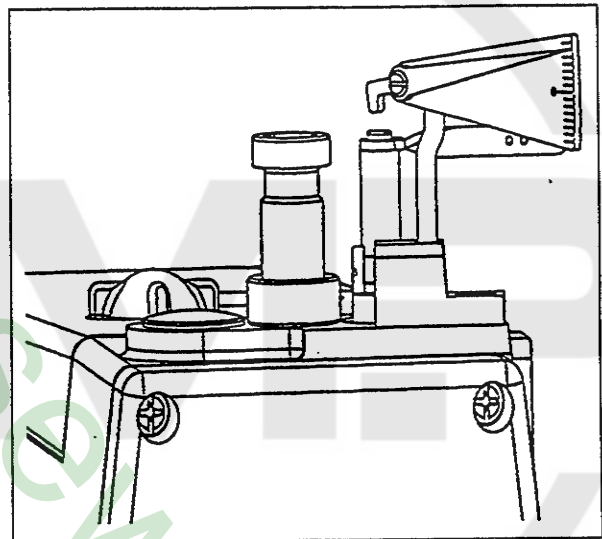
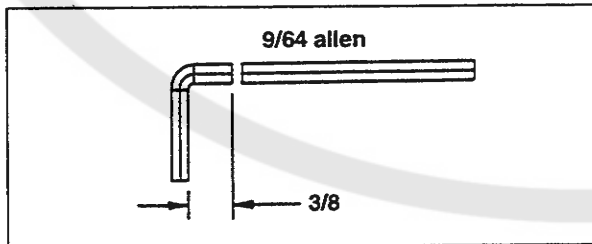
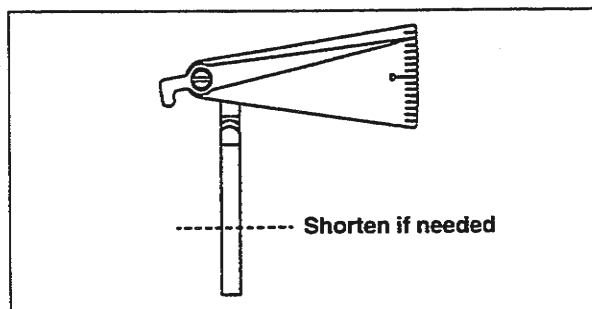

Fig. 3
Fig.4
Fig. 5
<ul style="list-style-type: none"> ○ Drain oil. ○ Remove oil pan. ○ Modify a standard 9/64" allen wrench (Fig.4). ○ Flag indicator from TT146 may need to be shorten (Fig. 5). ○ Remove looper and mount modified allen wrench in looper holder. ○ With needle bar at bottom dead center adjust looper holder so allen wrench is .400" (10 mm) from throat plate (Fig. 6). ○ Turn machine in operating direction until allen wrench contacts throat plate, assemble indicator to top of machine as shown in (Fig. 3) and set indicator point to "0". ○ Turn machine in opposite direction until allen wrench contacts throat plate. <p>(Note)</p> <p>Reading of indicator.</p> <p>If distance is less than "0".</p> <ul style="list-style-type: none"> • Loosen screw A (Fig. 7). • Move drive lever crank B away from looper rocker lever C. • Retighten screw A. • Recheck indicator readings in both rotating directions, until they are the same, +/- 1 mark. • Torque screws A. <p>If distance is more than "0".</p> <ul style="list-style-type: none"> • Loosen screw A (Fig. 7). • Move drive lever crank B towards looper rocker lever C. • Retighten screw A. • Recheck indicator readings in both rotate directions, until they are the same, +/- 1. • Torque screw A to 130 in. lbs. (15 Nm). • Replace removed parts. • Refill with UNION SPECIAL 175 oil. (Part No. 28604R)  <p>The diagram, labeled Fig. 7, shows a cross-sectional view of the looper mechanism. It features a central drive lever crank (B) that can move horizontally. A screw (A) is used to adjust the tension or position of the drive lever crank. A looper rocker lever (C) is positioned to the right of the drive lever crank. The diagram illustrates how the drive lever crank (B) moves towards or away from the looper rocker lever (C) to adjust the mechanism.</p> <p>Fig. 7</p>	<ul style="list-style-type: none"> ○ Skipped stitches